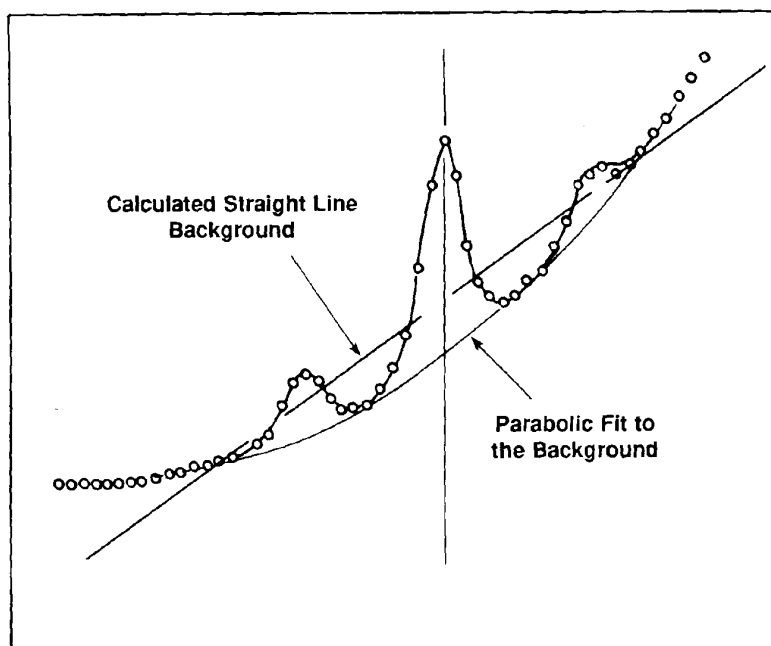

Figure 231. Parabolic Background.
- The peak sensitivity is 2 or higher; see Fig. 231.
Figure 231 shows this case for an actual spectrum.